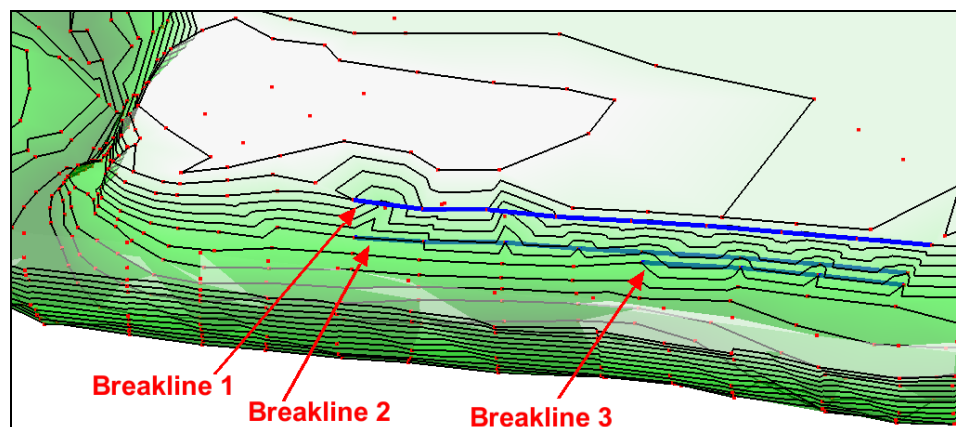

Figure 16 Connectivity for breaklines on the bank
14. **Zoom**  in to the detail area just to the right of the sharp turn on the river (Figure 16).
15. Using the **Create Breakline**  tool, add the first breakline as shown in Figure 16. Click on each vertex along the line and double-click on the last one to end the breakline.